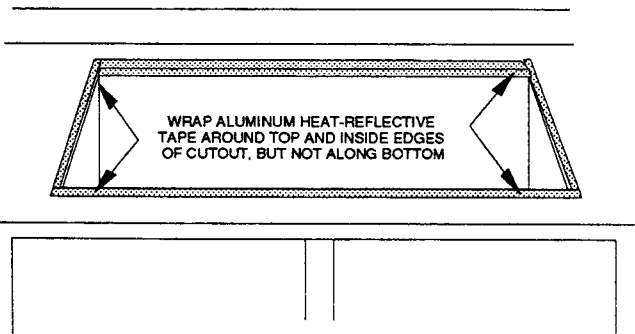

FIGURE 2-2
- Apply aluminum, heat-reflective tape (such as Scotch® Aluminum Foil Tape #425 or #427) around the top and inside edges of the cutout you just made (see Figure 2-2). Do not wrap the tape along the underside of the countertop. Make sure that the tape extends beyond the outermost flange of the cooktop, and that it covers all four corners.